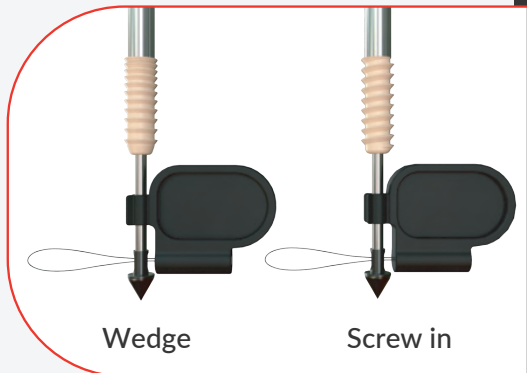

Figure 14
**Note:** VIPLOK Anchors are available in Wedge & Screw-in variants. (Figure 14)